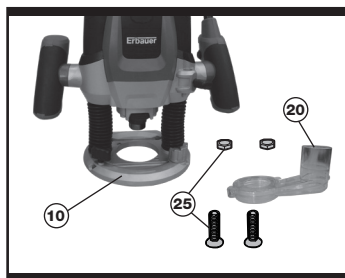

Fig 2
25. SCREWS AND NUTS (SEE FIG 2)
### 2. MOUNTING THE DUST ADAPTER (See Fig 2)